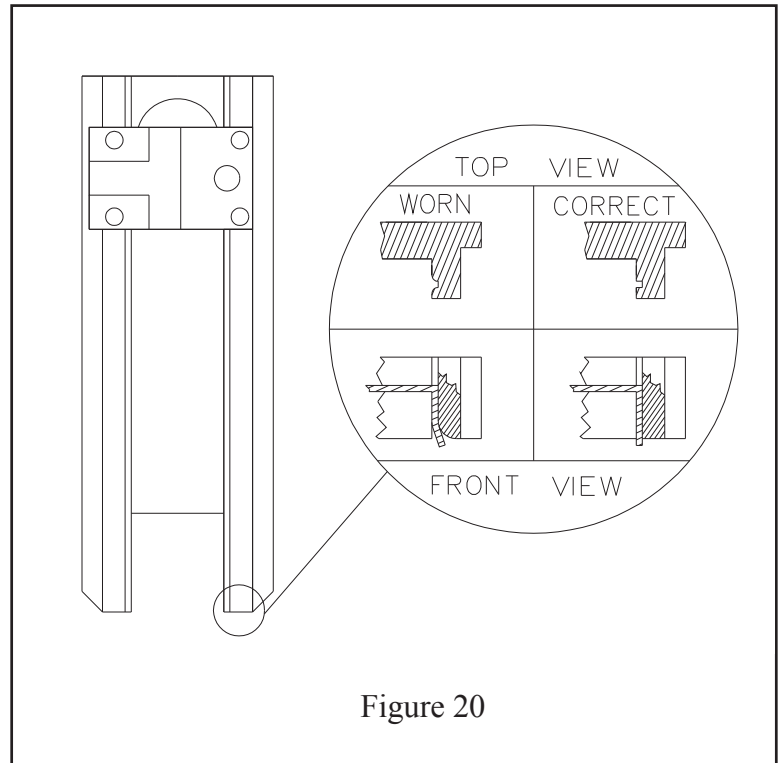
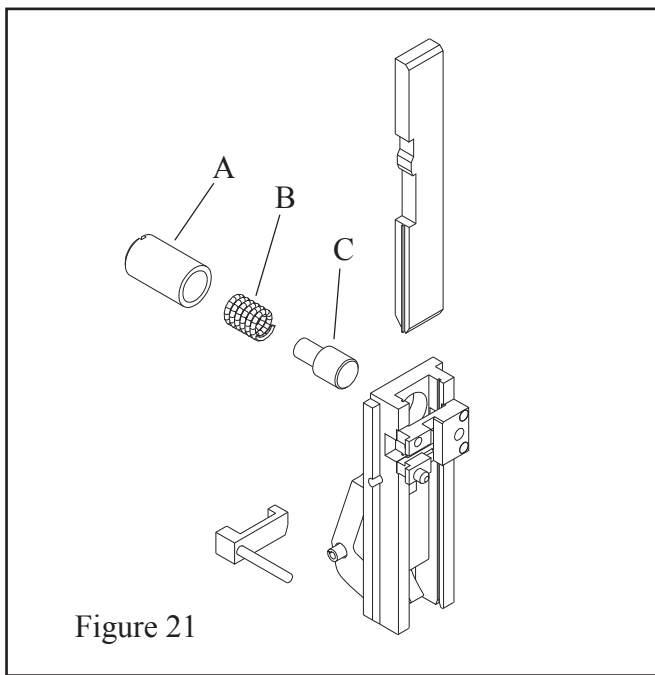

Figure 20
Figure 21
D. Bender Bar (Figure 20)
The bender bar bends the wire over the rotator and forms it into an unclinched stitch. The legs of the stitch are guided towards the work material by the bender bar grooves. The legs of the unclinched stitch should be perpendicular to the crown. When the bender bar grooves become worn, the legs tend to flare out (Figure 20) as they emerge from the grooves. This causes the legs to strike the clincher improperly. As a result, one or both legs will crumple and a broken driver bar or a broken bender bar can result. If the lower end of the bender bar grooves become chipped, it will not support the wire and may cause the stitch to break at the crown. Replace the bender bar assembly (See "G" page 26 or Fig. 21). Other bender bar functions are related to wire cutting ("I" page 28), and driving ("F" page 25).
E. Bender Bar Friction Plug And/Or Spring (Fig.21)